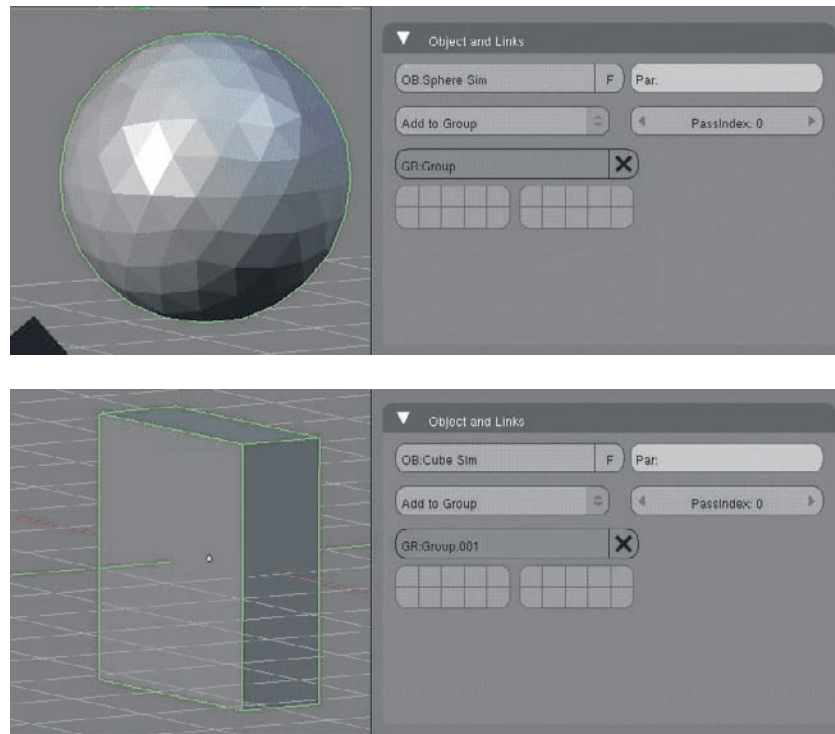

Figure 3.71 Group assignments for the sphere and cube
3. The `demolition.py` script determines the behavior of colliding objects based on their membership in groups. For objects to collide, it is necessary to set them as members in separate groups. The default group names in the script are `Group` and `Group.001`, which are also the default names for newly added groups in Blender. Select the sphere first, and in the Objects And Links tab of the Object Buttons area, click the Add To Group drop-down menu and select Add New. This will automatically create a group called `Group` and assign the sphere to this group. Do exactly the same thing with the cube, so that the cube is also assigned to a newly created group called `Group.001`. Figure 3.71 shows the group assignments for both objects.